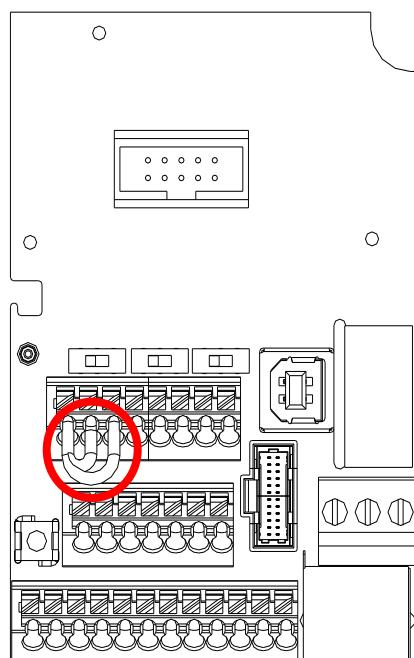

Figure 17-2
- Figure 17-2 shows the internal circuit diagram of the safe control loop.
- The terminals of the safe control loop + 24V-S1-S2 are short-circuited together with the jumper wire at the factory, as shown in Figure 17-2.